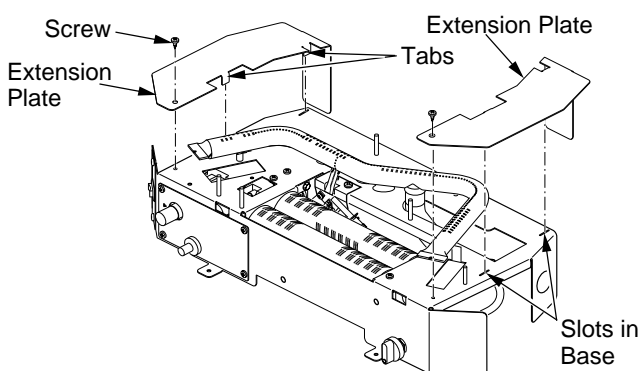

Figure 12 - Attaching Extension Plates to Base Assembly (30" Model Only)
3. Attach extension plates (left and right on 30" models only) to base by placing tabs into base slots. Use supplied screws (2) to secure extension plates to base (see Figure 12).